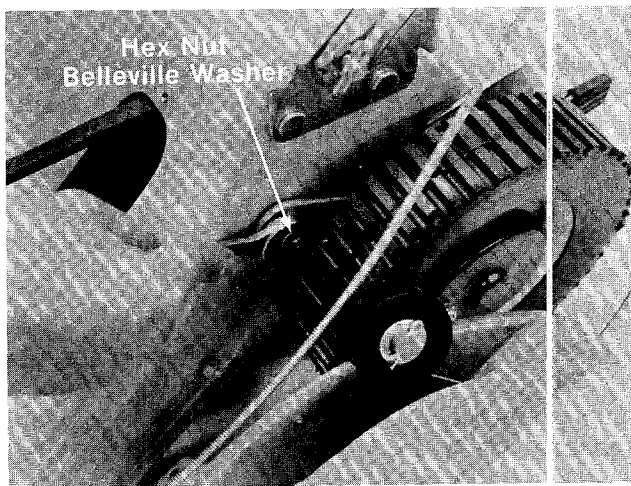

FIGURE 23.
5. Remove hex nut and belleville washer from height adjustment lever on left side of mower as shown in figure 23.